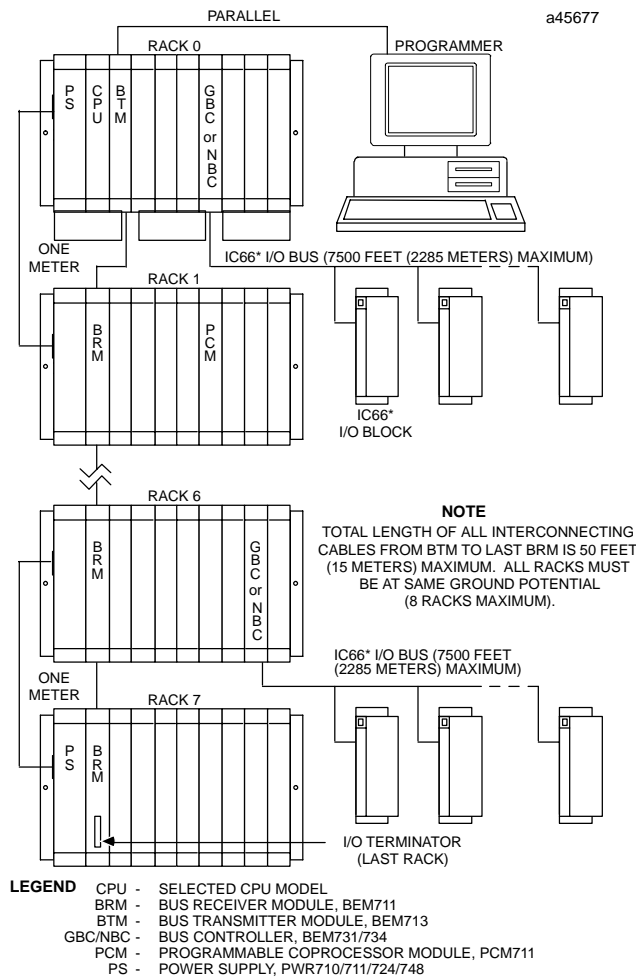

Figure 1. PLC System Configuration Example
- Install the CPX 935 module in slot 1 of rack 0 (see Figure 1).
For a parallel interface (MS-DOS programmer only) the programmer is connected to the top port on the Bus Transmitter Module (IC697BEM713) as shown in Figure 1. Consult the applicable *Programming Software User's Manual* for a description of programming functions.